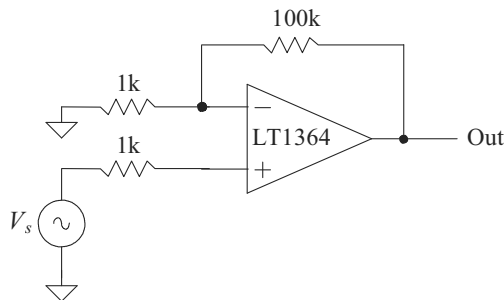

Figure 8.51 Circuit for Problem 8.18.
- 8.18** Estimate the RMS output noise for the amplifier seen in Fig. 8.51. What would placing a capacitor across the feedback resistor do to the RMS output noise and to the speed (bandwidth) of the amplifier? Name two ways to lower the RMS output noise for this amplifier. What is the cost for the lower output noise?